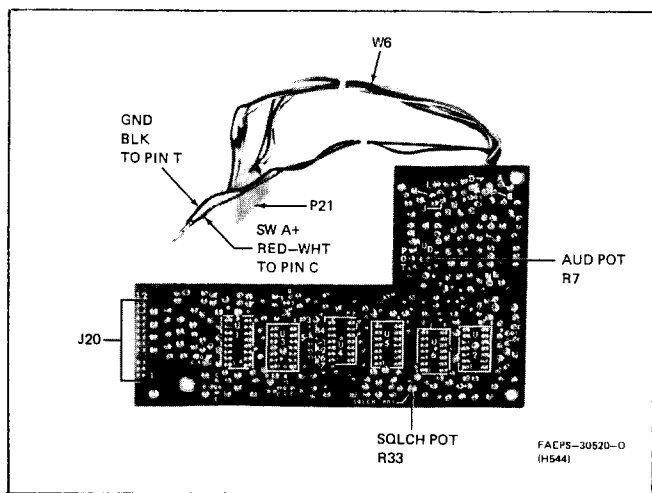

Figure 4. Repeater Control Board Adjustment Locations.
Step 7. Monitor the voltage at exciter audio P100-6. Adjust AUD POT R7 (refer to Figure 4) for a reading of 320 mV.